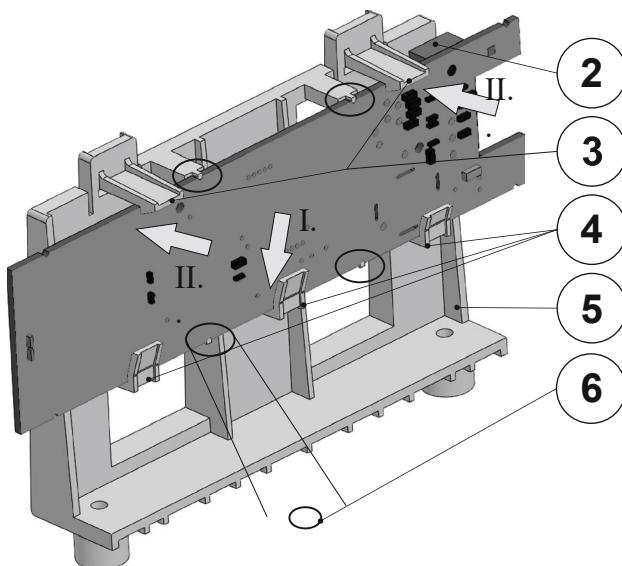

Figure 2: 2 – connection cable connector; 3 – upper holder tabs; 4 – lower inclined locking tabs; 5 – radio module holder; 6 – locking detail
1. Insert the PCB of the radio module (orientation according to Figure 2) into the holder (5) in a direction indicated by arrow I. at an angle given by the three lower inclined locking tabs (4). Make sure that the PCB of the radio module sits with its half-round cutouts